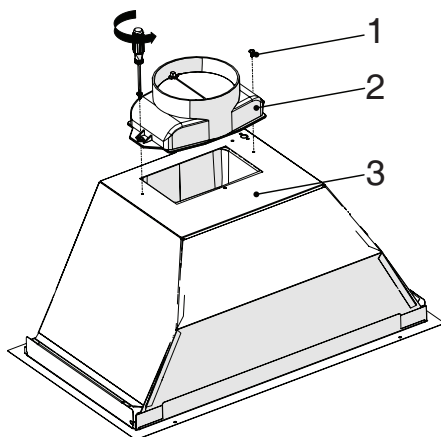

Figure 3
- Attach the plastic flue contained in the package to the body of the appliance using 2 screws 3.5x9.5. Do not rub it against the surface. (Figure 3)